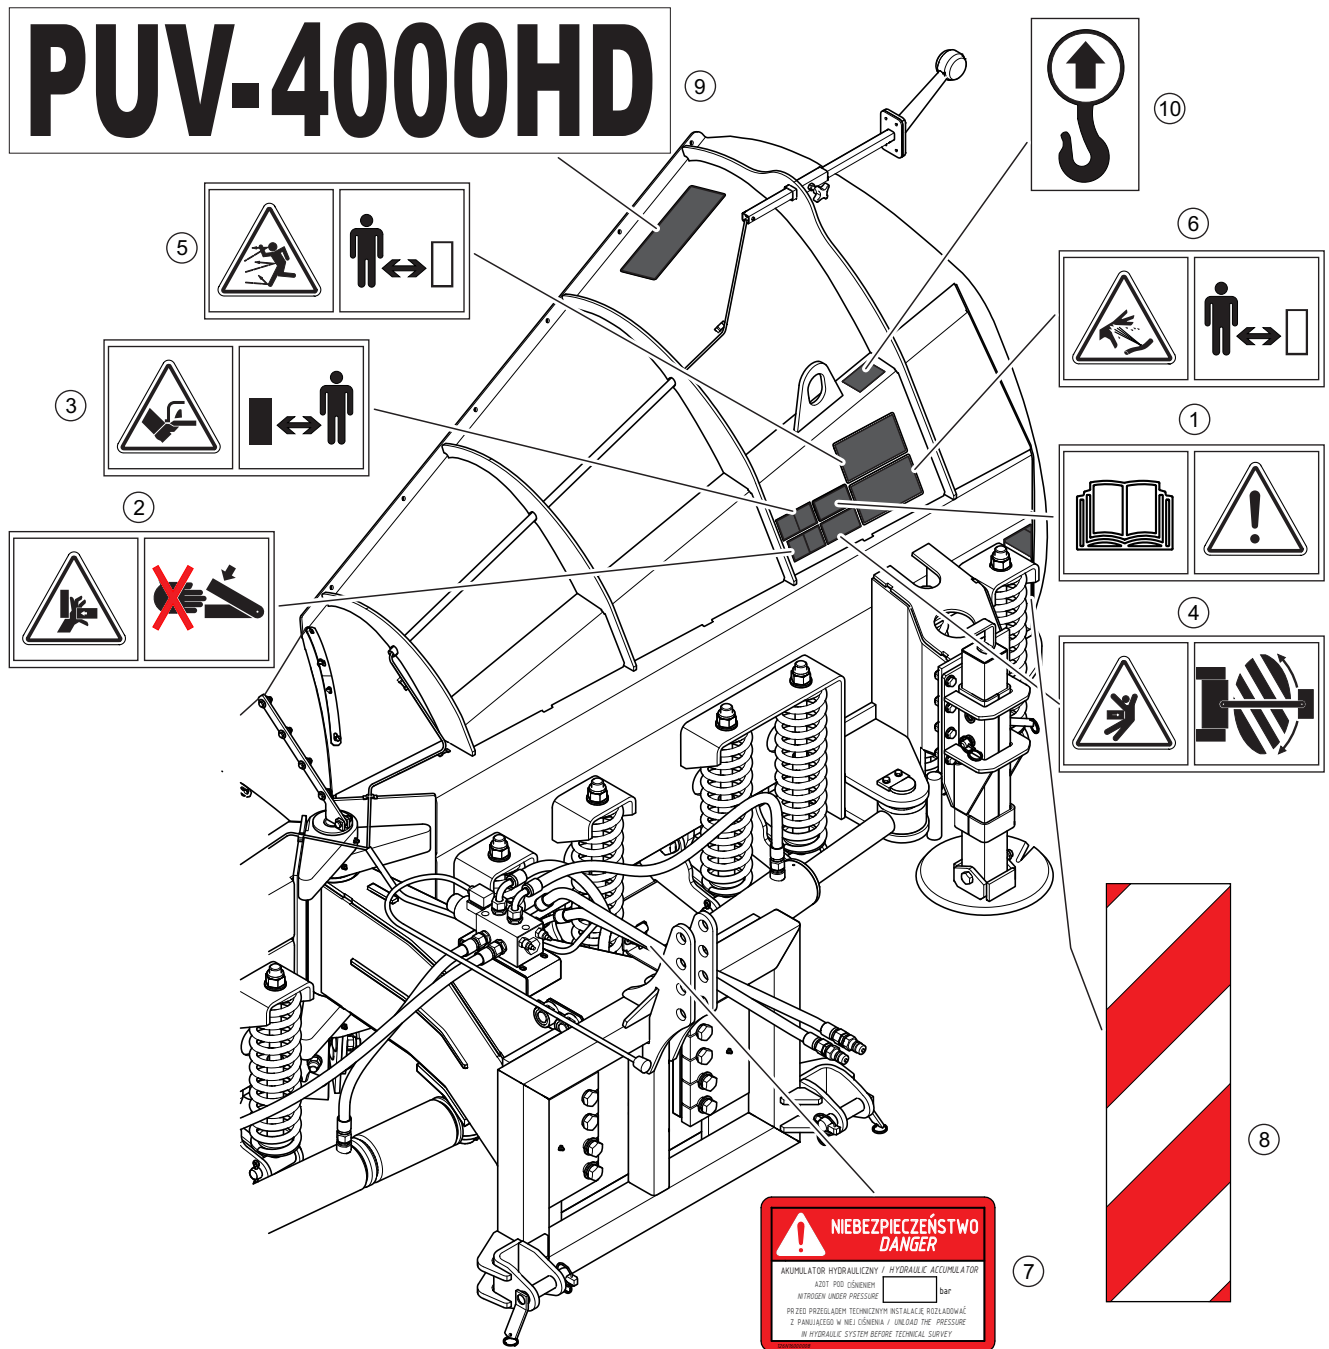

FIGURE 2.1 Locations of information and warning decals.
Numbers in the item column correspond to decals (FIGURE 2.1)
Decal item 7 is included in the optional equipment of the snow plough and is not shown in figure 2.1